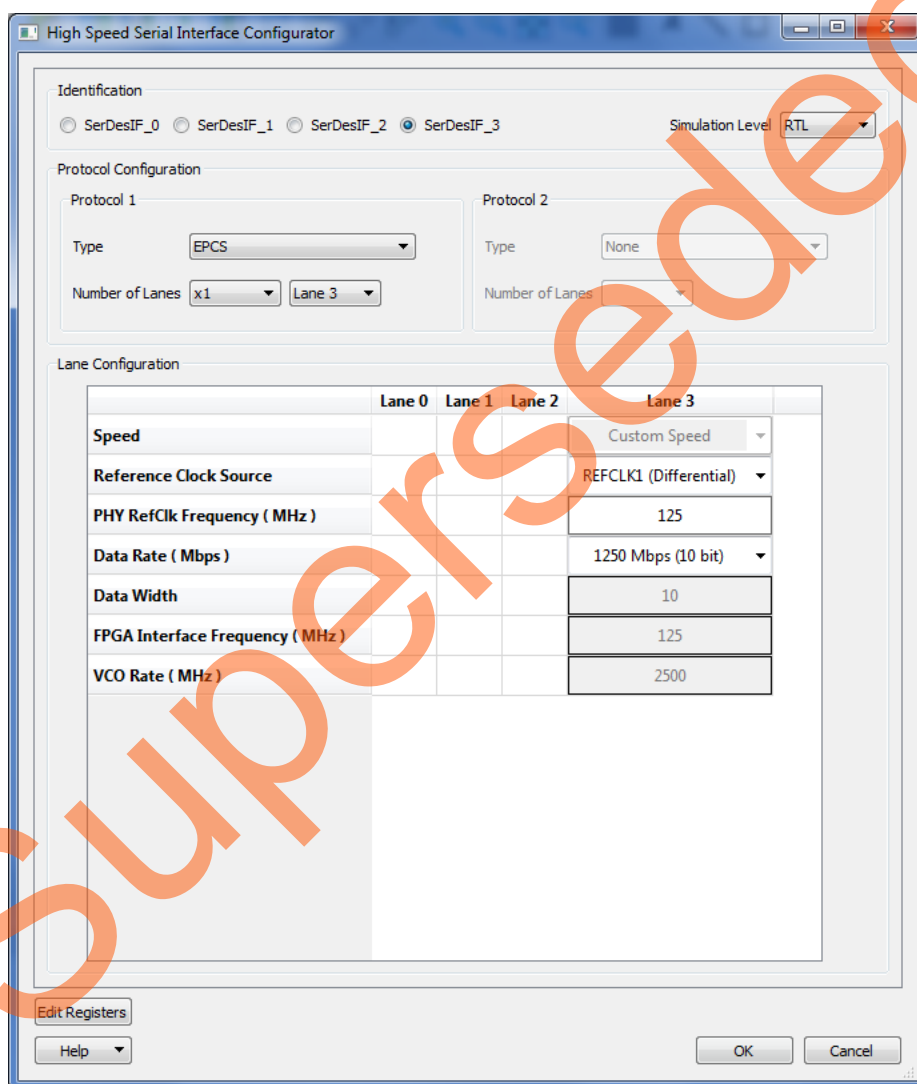

Figure 4 • High Speed Serial Interface Configurator Window
6. High speed serial interface (SERDESIF) **SERDES_IF IP**, configured for **SERDESIF_3 EPCS lane3** as shown in Figure 4 on page 10.